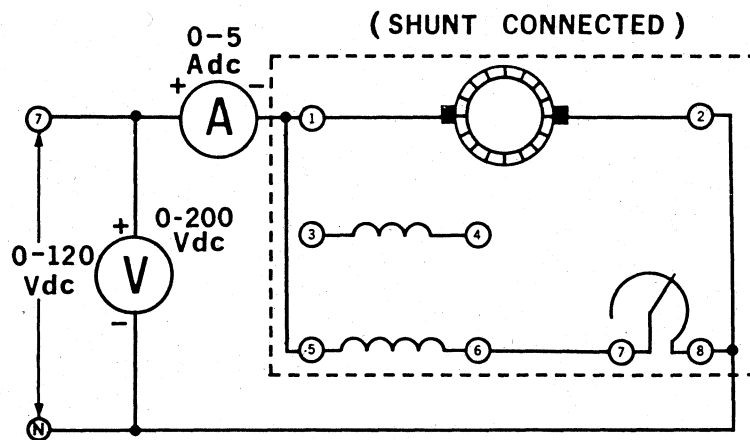

Figure 2-1.
- 1. Using your Power Supply, DC Motor/Generator, DC Voltmeter/Ammeter and Electrodynamicometer, connect the circuit shown in Figure 2-1.
- b. Connect the motor as shown in Figure 2-1.
- b. Connect your circuit as shown in Figure 2-1.